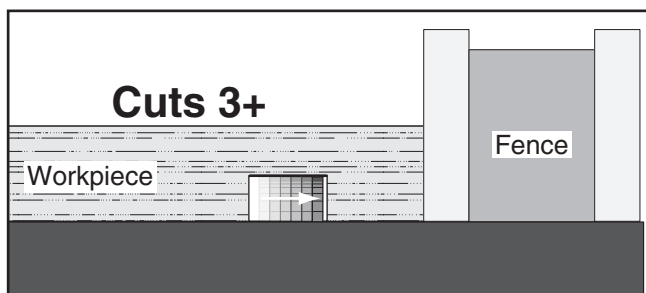

Figure 61. Additional single-blade dado cuts.
- Make additional cuts (see **Figure 61**) in center of dado to clear out necessary material. Dado is complete when channel is completely cleared out.